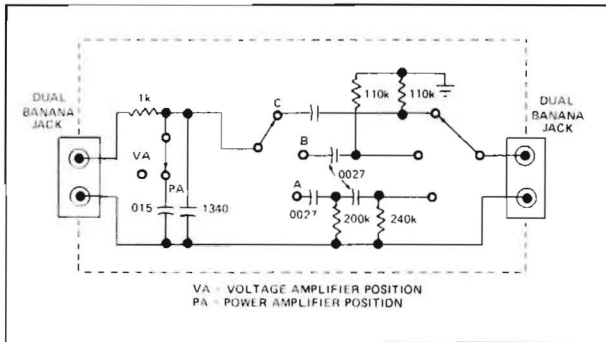
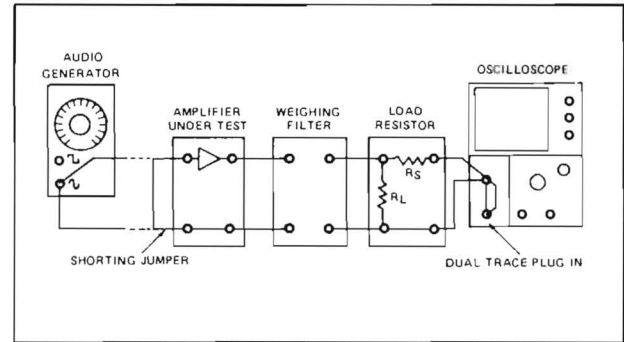

Figure 39 Weighting Network
Figure 40 Equipment Setup for Weighted Signal to Noise Tests
Various weighting filters may be specified for different kinds of equipment. The schematic of one commonly used type is shown in Figure 39.
To measure noise as recommended by the EIA standard the B section of the weighting filter shown in Figure 39 should be inserted in the test setup as shown in Figure 40.
1. Set up the equipment as shown in Figure 40. Short the amplifier input. A dual trace vertical plug-in such as the Tektronix 5A18N must be used. If this procedure is used without a weighting filter, some form of a frequency limiting filter (usually a 15 kHz low pass) MUST be used.